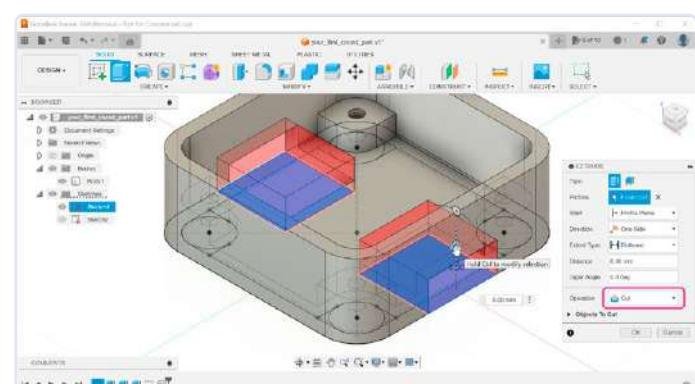

Figure 18: Extruding the two holes.
- 18) Rotate the 3D view to see the bottom of our enclosure. Select the *Extrude* (**Figure 18**) tool and then select the newly created rectangles. Enter a distance of 6 mm to match the height of the supports. *Operation* should be automatically changed to *Cut*.